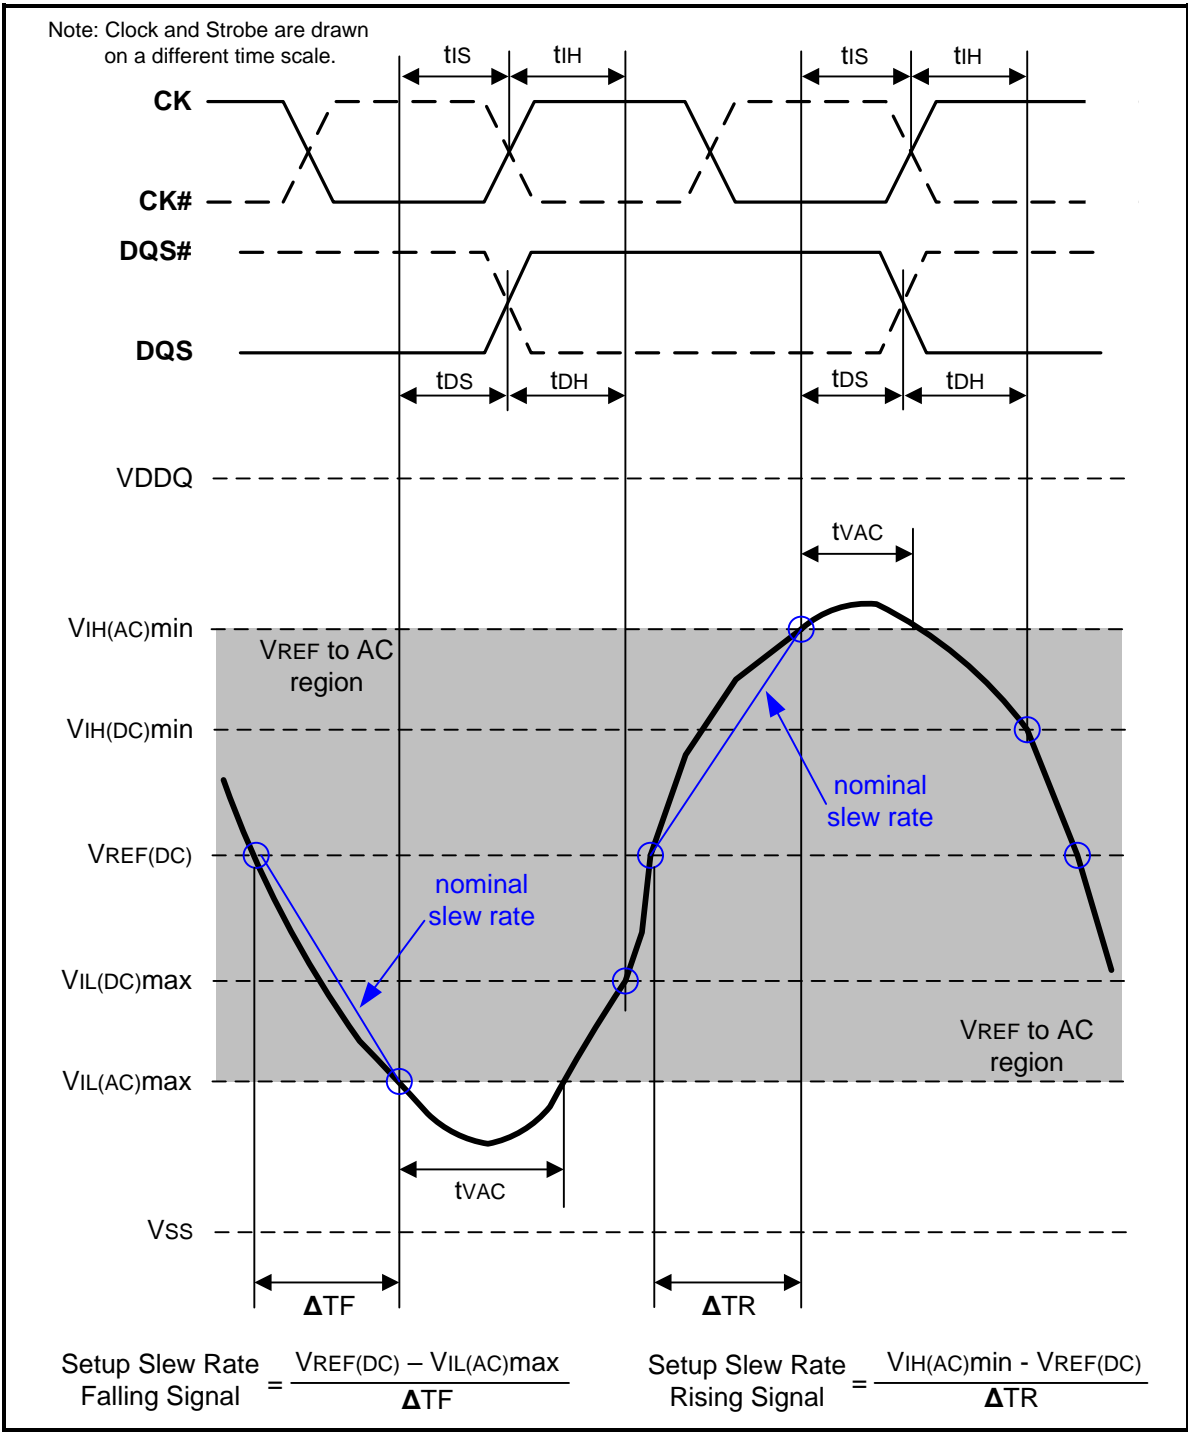
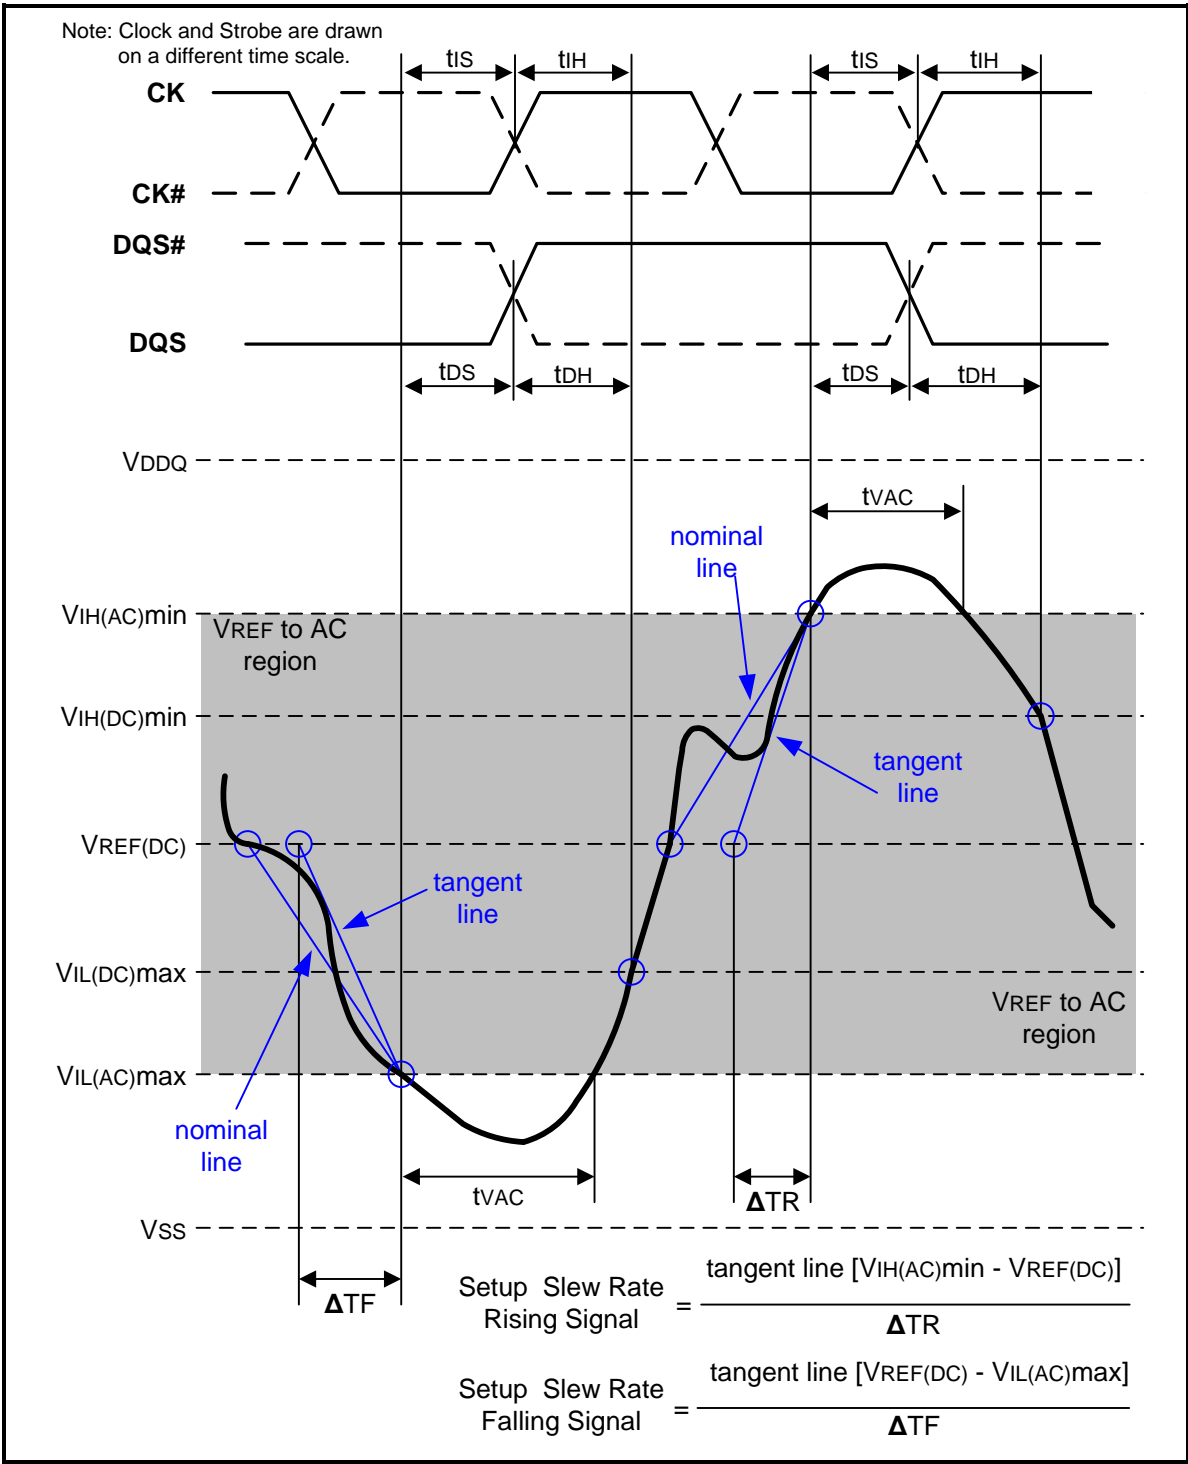

Figure 107 – Illustration of nominal slew rate and tvac for setup time tds (for DQ with respect to strobe) and tis (for ADD/CMD with respect to clock)
Figure 109 – Illustration of tangent line for setup time tDS (for DQ with respect to strobe) and tIS (for ADD/CMD with respect to clock)
Setup ( $t_{IS}$ ) nominal slew rate for a rising signal is defined as the slew rate between the last crossing of  $V_{REF(DC)}$  and the first crossing of  $V_{IH(AC)min}$ . Setup ( $t_{IS}$ ) nominal slew rate for a falling signal is defined as the slew rate between the last crossing of  $V_{REF(DC)}$  and the first crossing of  $V_{IL(AC)max}$ . If the actual signal is always earlier than the nominal slew rate line between shaded 'VREF(DC) to AC region', use nominal slew rate for derating value (see Figure 107). If the actual signal is later than the nominal slew rate line anywhere between shaded 'VREF(DC) to AC region', the slew rate of a tangent line to the actual signal from the AC level to  $V_{REF(DC)}$  level is used for derating value (see Figure 109).
Setup (tDS) nominal slew rate for a rising signal is defined as the slew rate between the last crossing of VREF(DC) and the first crossing of VIH(AC)min. Setup (tDS) nominal slew rate for a falling signal is defined as the slew rate between the last crossing of VREF(DC) and the first crossing of VIL(AC)max (see Figure 107). If the actual signal is always earlier than the nominal slew rate line between shaded 'VREF(DC) to AC region', use nominal slew rate for derating value. If the actual signal is later than the nominal slew rate line anywhere between shaded 'VREF(DC) to AC region', the slew rate of a tangent line to the actual signal from the AC level to VREF(DC) level is used for derating value (see Figure 109).